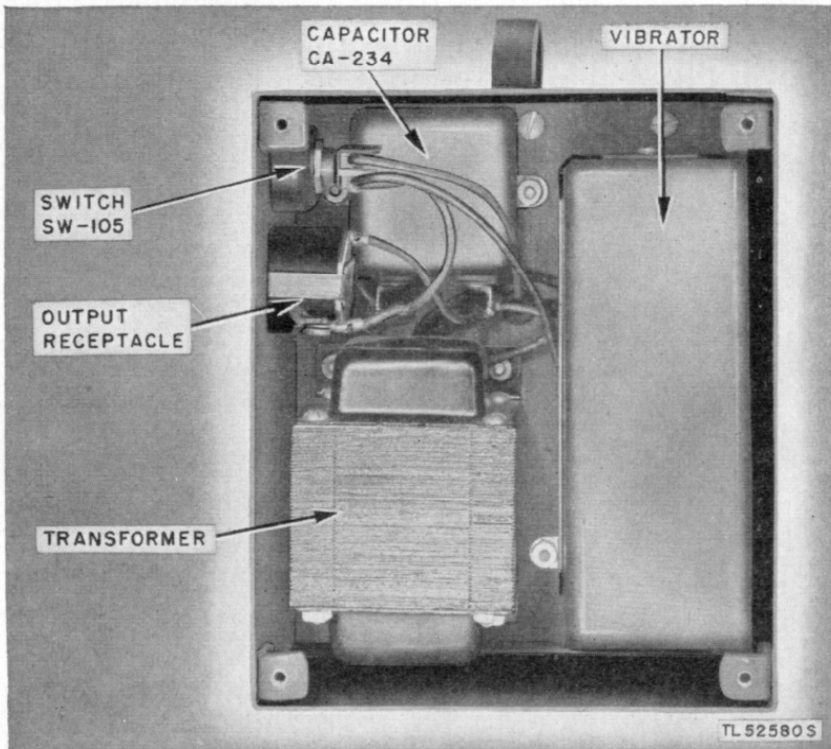

Figure 3. Converter M-222—right cover removed.
b. MOUNTING SHELF ASSEMBLY. On top of the shallow steel mounting shelf are mounted one transformer, one 0.25-mf Capacitor CA-385, one 1-mf Capacitor CA-234, and one vibrator. (See figs. 3 and 4.) The vibrator is encased in a metal box and is held in place by two steel clips which are welded to the cover. The vibrator plugs into a six-prong socket. A fiber insulator is mounted on the under side of the shelf assembly, directly under Capacitor CA-234. The mounting shelf assembly is fastened to the box by four No. 6-32 flat-top, binding head screws.